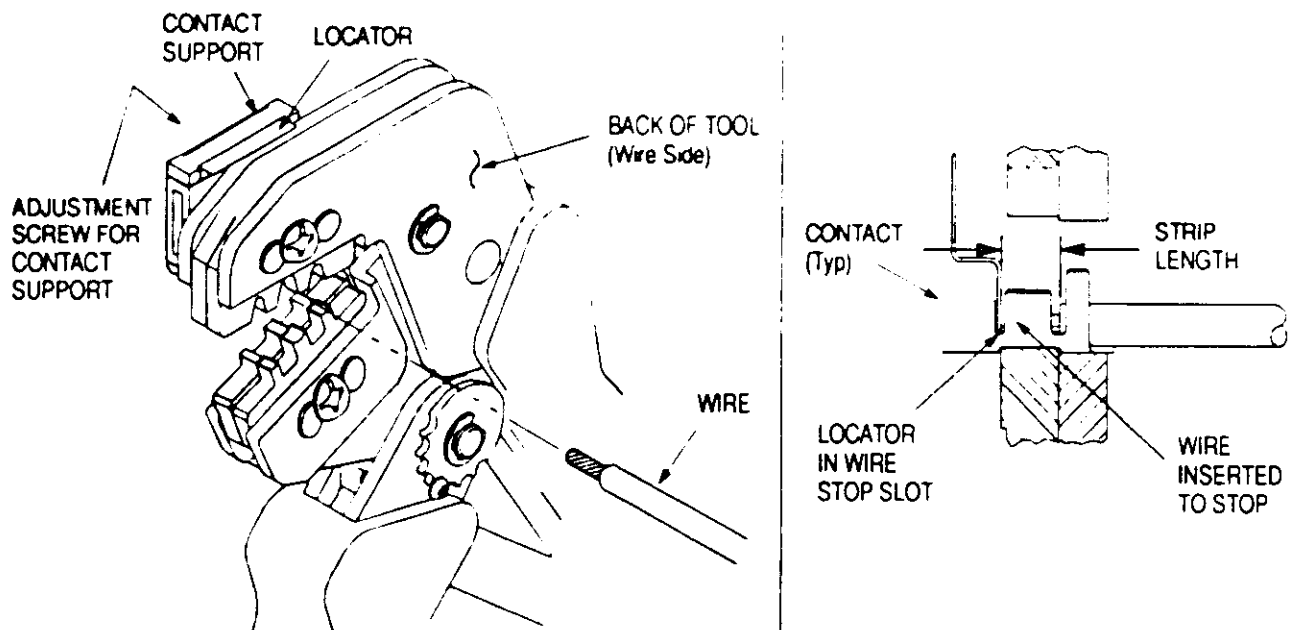

Figure 3
#### 4. CONTACT SUPPORT ADJUSTMENT (Figure 3)
Refer to the table in Figure 1 and select wire of the specified size and insulation diameter. Strip the wire to the length indicated in Figure 1, taking care not to nick or cut wire strands. Select an applicable contact and identify the appropriate crimp section according to the wire size markings on the tool. Refer to Figure 3 and proceed as follows:
3. Position the contact so that the mating end of the contact is on the locator side of the tool, and so that the open "U" of the wire and insulation barrels must face the top of the tool. Place the contact up into the nest so that the movable locator drops into the slot in the contact. Refer to Figure 3. Butt the front end of the wire barrel against the movable locator.
5. Insert stripped wire into contact insulation and wire barrels until it is butted against the wire stop, as shown in Figure 3.
**NOTE** *The crimped contact may stick in the crimping area, but the contact can be easily removed by pushing downward on the top of the locator (see Figure 3).*